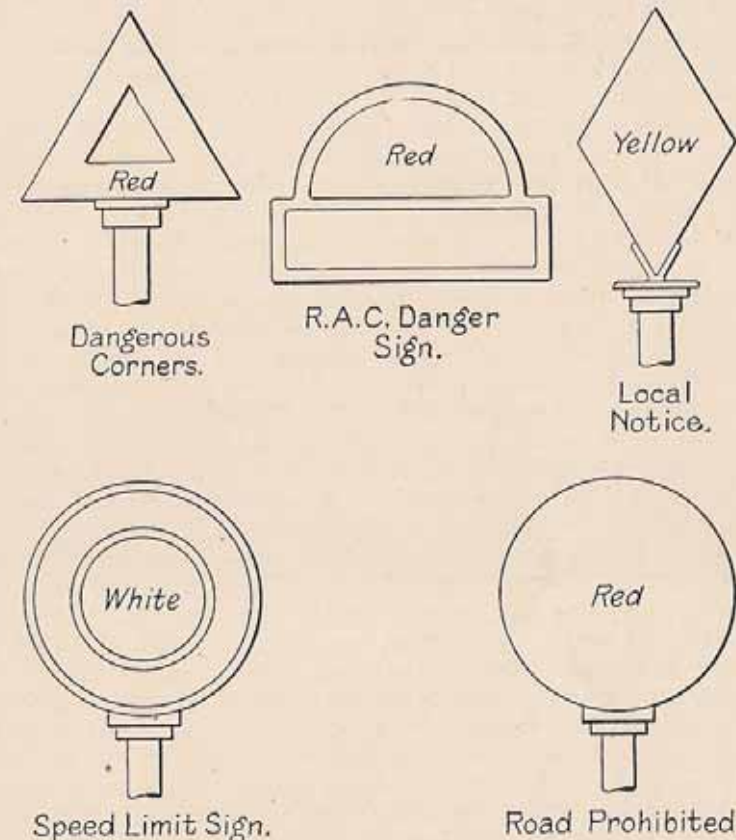

FIG. 24. CONVENTIONAL ROAD SIGNS
8. Obey all special speed limits and notices (see Fig. 24).